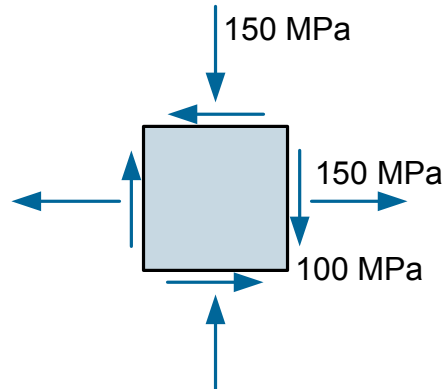

Fig. 3
Problem 3. The state of stress at a point is shown in Fig. 3. By using Mohr's circle, determine:
- The equivalent state of stress if the coordinate system is oriented 30° clockwise from the element shown in Fig. 3.